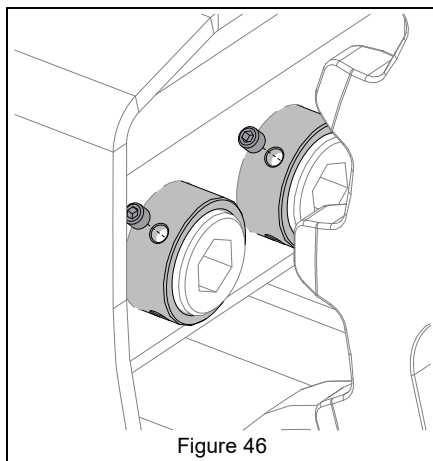

Figure 46
7. Re-install small set screws and tighten to lock in place, retaining large set screws from coming loose and falling out. Torque to 130 in-lb. See Figure 46.